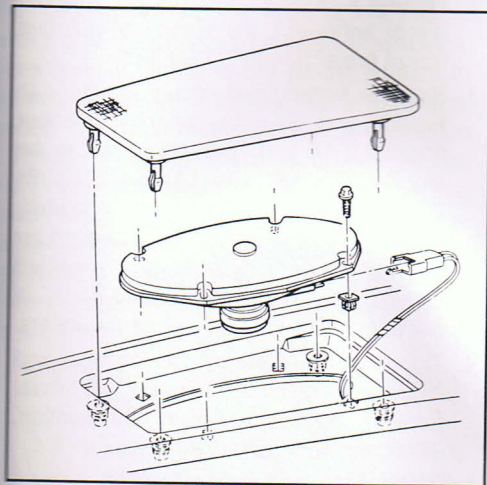

Figure 1 - Instrument panel speaker
4. Place screw driver in the gap between the speaker and the instrument panel near one of the corners. See Figure 1.